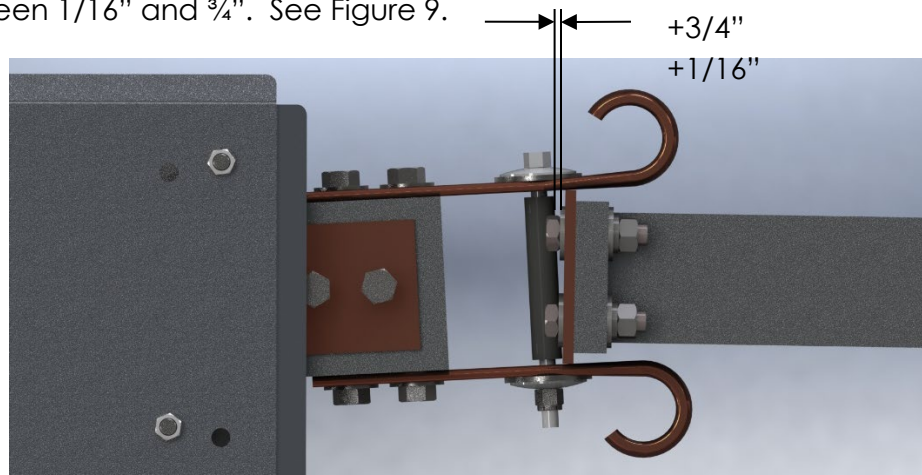

Figure 9: Male Blade Tip Depth
- 3) Measure the gap between the blade tip and the blade stop. The gap should be between $1/16"$ and $3/4"$. See Figure 9.